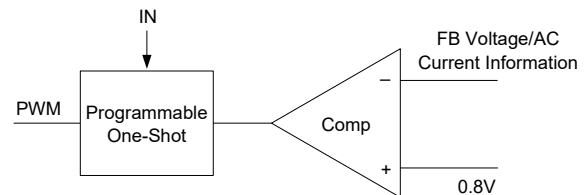

Figure 2. Simplified Control Schematic of AOZ2152EQI-29
The control algorithm of AOZ2152EQI-29 is constant-on-time PWM control with input feed-forward. The simplified control schematic is shown in Figure 2. The high-side switch on-time is determined solely by a one-shot whose pulse width is inversely proportional to input voltage (IN). The one-shot is triggered when the internal 0.8V is higher than the combined information of FB voltage and the AC current information of inductor, which is processed and obtained through the sensed low-side MOSFET current once it turns-on. The added AC current information can help the stability of constant-on time control even with pure ceramic output capacitors, which have very low ESR. The AC current information has no DC offset, which does not cause offset with output load change, which is fundamentally different from other V^2 constant-on time control schemes.